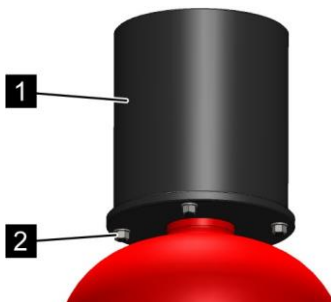

Fig. 194: Install the protective valve cap
6. ➤ Fit the protective valve cap (Fig. 194/1) onto the extinguishing agent container.
7. ➤ Screw the protective valve cap (Fig. 194/1) with the device onto the extinguishing agent container (Fig. 194/2).